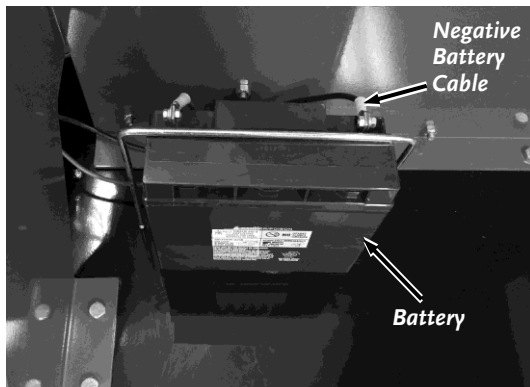

Figure 36
2. Disconnect the negative terminal at the Battery (**Figure 36**).